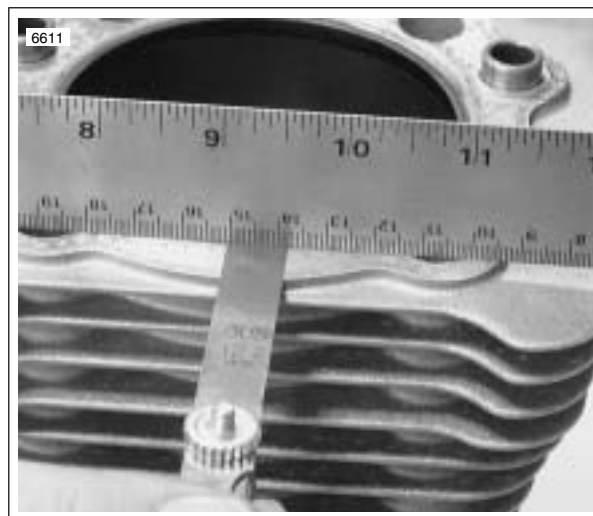

Figure 3-89. Checking Gasket Surfaces
1. See Figure 3-89. Check cylinder head gasket surface for flatness.